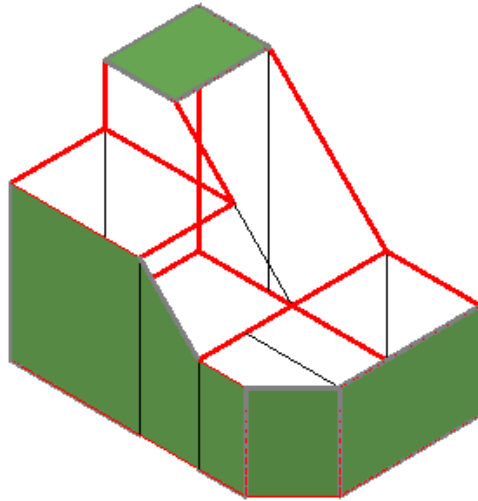

Figure Step 8
Step 8 To check the surfaces you just inserted, set the current visual style to Realistic as shown in the figure. (Figure Step 8)